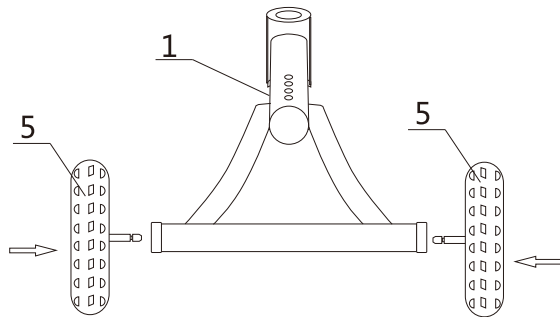

Fig. 1
1. When installing the rear wheel, align the rear axle to the center hole of the plastic sleeve of rear axle tube of the frame, insert it into the bottom, and hear the sound of clamp spring coming out. After installing the wheel, pull the wheel to the outside to make sure the clasp is stuck (Fig 1).